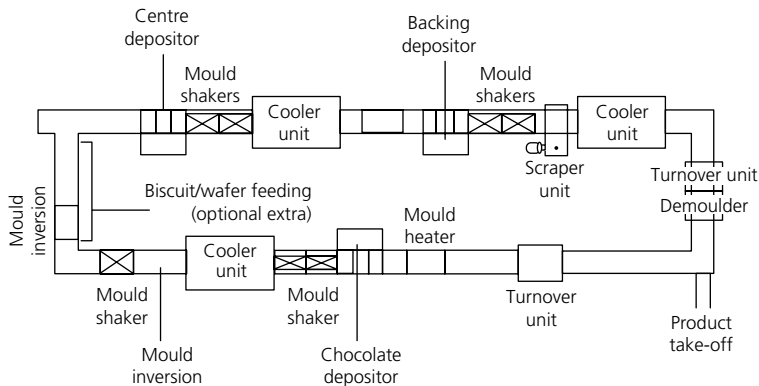

Figure 14.1 Layout of loose mould moulding plant.
Simple loose mould lines are usually laid out in a square, though a figure of eight (8) layout is often adopted to allow sections not being used to be bypassed for cleaning or changeover, or just to save wear and energy. More complex layouts with parallel legs or star shapes around a central cooling zone can be found on ultra-flexible plants used to make a wide variety of assortments (Aasted, 2014). These lines can be built and expanded upwards, crosswise or lengthwise to adapt to the existing production facility. The various components may be independent or combined according to the age and design purpose of the plant. A typical layout of a loose mould line capable of manufacturing filled chocolate bars is shown in Figure 14.1. A picture of the turning point on such a line is shown in Figure 14.2.